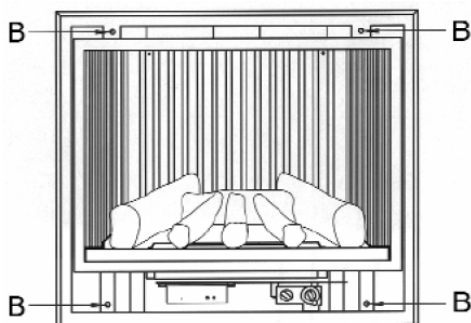

Fig.11
- 2) Remove the outer frame by removing screws B (see fig. 11) and taking away the frame.